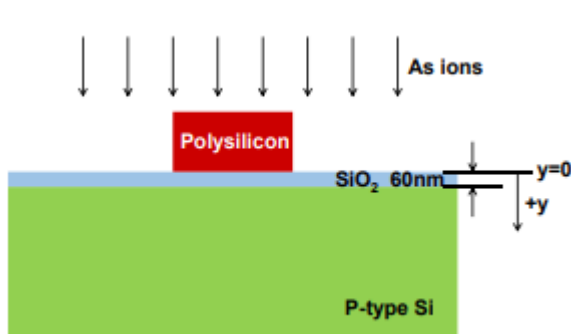

Figure 3B
- 3B. Consider the cross-section of **Figure 3B** that is to be doped with As using ion implantation to form the source/drain regions. Assume the Si substrate is initially doped with B with a uniform concentration of 10^{16} cm^{-3} .